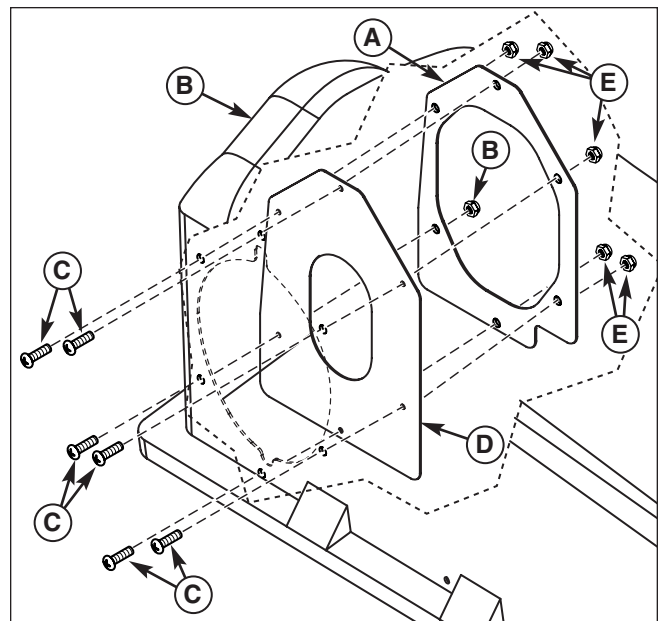

Figure 25. Install Seal and Cover Plate
2. Inside grass catcher cover (B, Figure 25) place seal (D), and cover plate (A). Secure using #10-24 x 3/4 screws (C), and #10-24 locknuts (D).